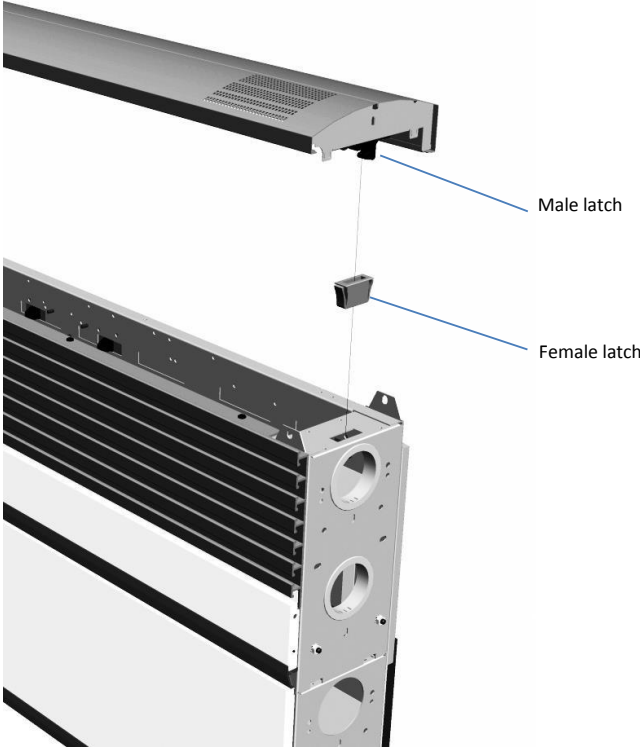

Figure 39
Standard top trim caps are removable and held in place with (2) plastic latches. Usually the female portion of each latch will be pre-snapped onto the male portion for shipment. Remove the female portions of the latches, taking note of their orientation with respect to the male portions. Snap the female portions into the rectangular slots in the top of the core wall. Then snap the top cap into place, engaging the male latches into the female latches. See figure 39.